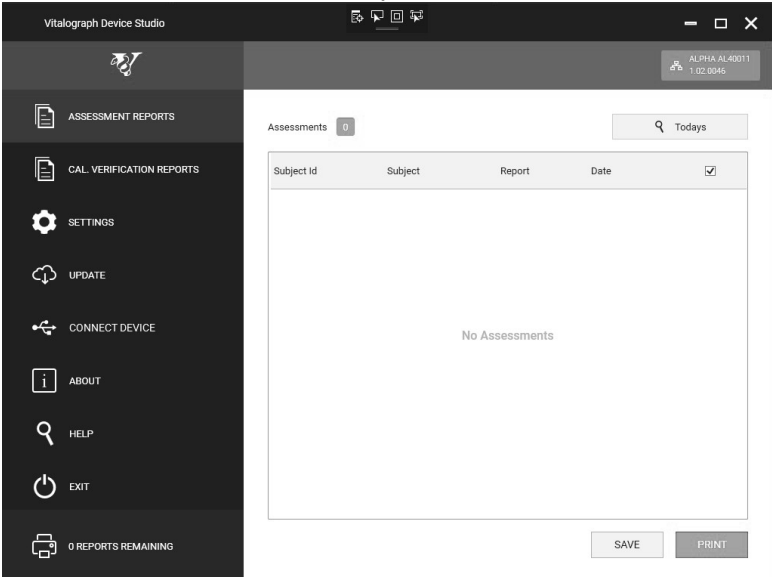

Figure 5.a
3. Device Studio will search for assessments on the device (see Fig 5.a). Available assessments are shown on screen and may be selected and printed and/or saved (see Fig 5.b).